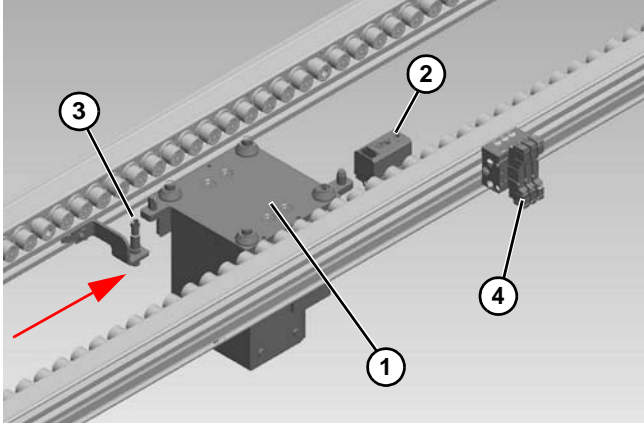

Figure 13
1. Install and adjust Lift and Locate module (Figure 13, item 1).
2. Locate and install pallet stop (Figure 13, item 2). (Refer to “Pallet Stops” starting on page 8.)
3. Locate and install pallet sensor (Figure 13, item 3). (Refer to “Sensor Mounts” starting on page 7.)
4. Install and connect pneumatic solenoids (Figure 13, item 4), provided by others.